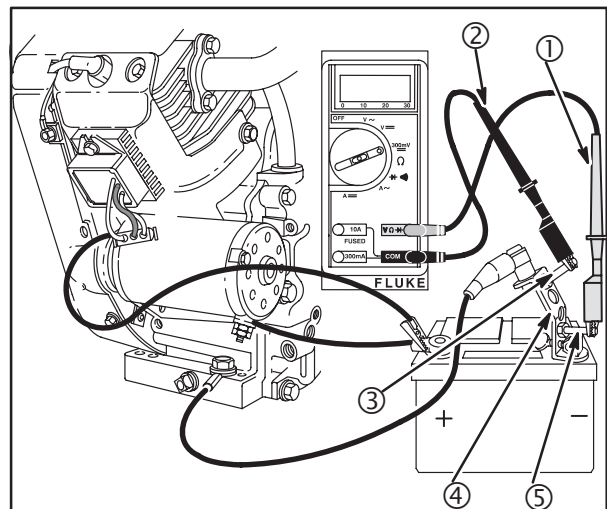

Fig. 32
The DC Shunt **must** be installed on the NEGATIVE (-) terminal of the battery, **Fig. 32** to avoid blowing the fuse in the meter when testing the output of the 20 amp system. All connections must be clean and tight for correct readings.
- Install DC shunt #19359 (4) on NEGATIVE battery terminal.
- Insert RED test lead into VΩ receptacle in meter and connect to RED post terminal on shunt (5), **Fig. 32**.
- Insert BLACK test lead into **COM** receptacle in meter. Connect to BLACK post terminal on shunt (3).